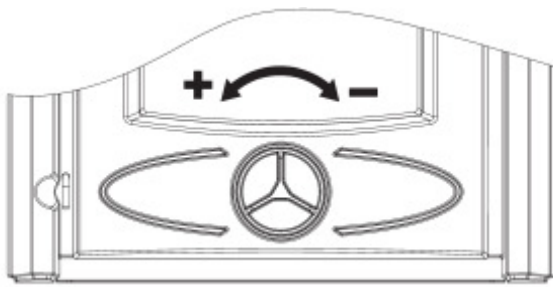

Figure 1
2. Rotate the spin valve on the door fully anti-clockwise to set to maximum opening (see Figure 1).